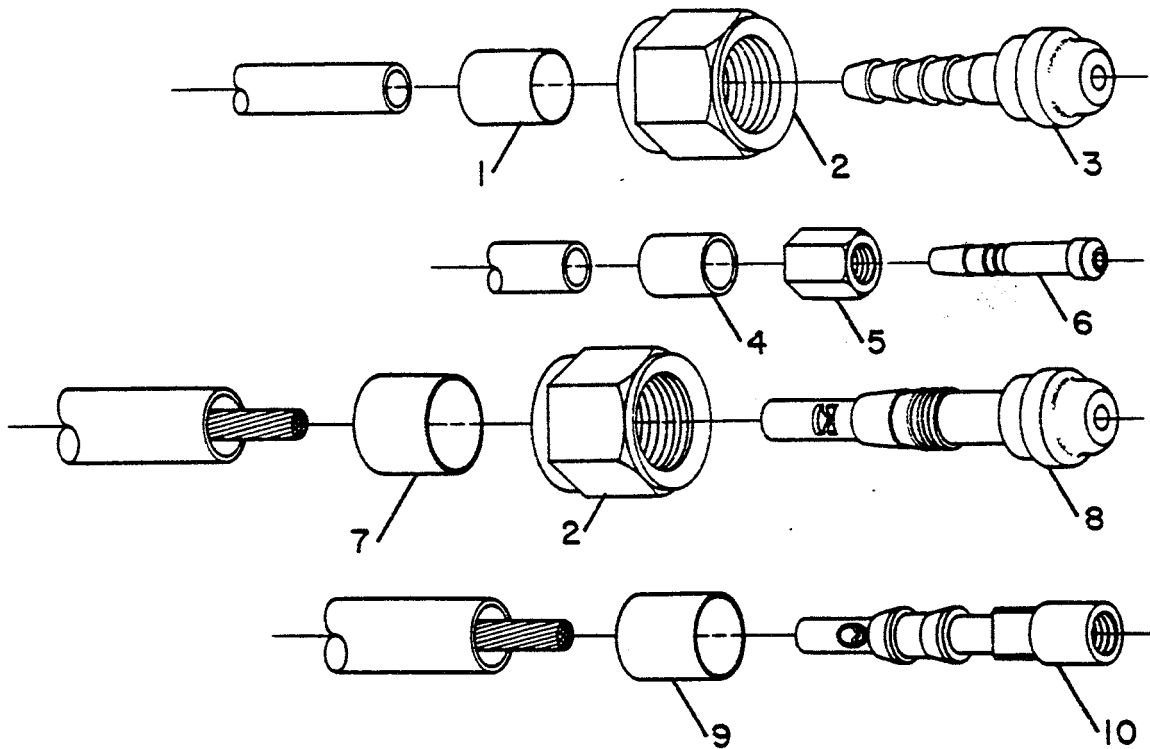

Figure 5-3 3A Torch Leads and Hose Fittings
- Figure 5-3. 3A Torch Leads Assembly